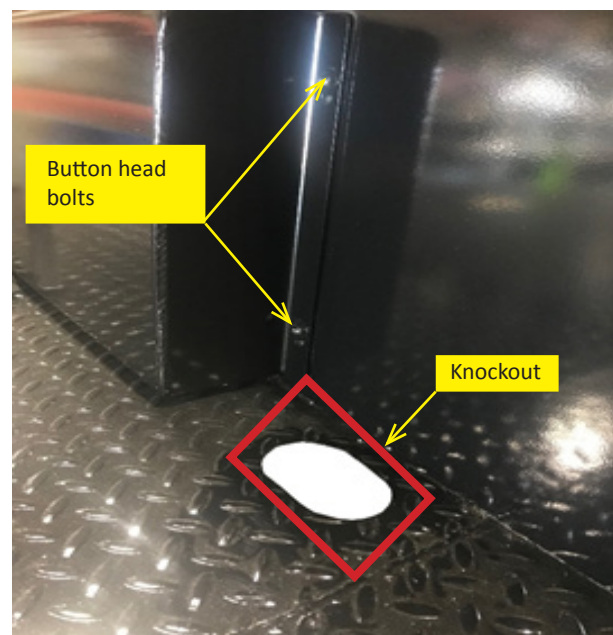

Figure 1
Keyed ignition circuits are available for use in the ICEM (formally referred to as the Mid-BEC or MBEC which is located in the LH foot well, near or below the parking brake (see Figure 1). Purchase of OEM Connectors 13924036 and 19328970 is recommended to utilize this keyed ignition location. Reference GM UI Bulletin #115d for more details.
- 1 Remove knockout from **HYDRABED®** floor using personal safety eye protection and a hand grinder with cut off wheel. Add rubber edge trim (**ITEM 2**) to protect hoses and wires. Using a 3/16" allen wrench, remove the two (2) button head bolts securing the inner end of the oil reservoir. Figure 1